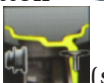
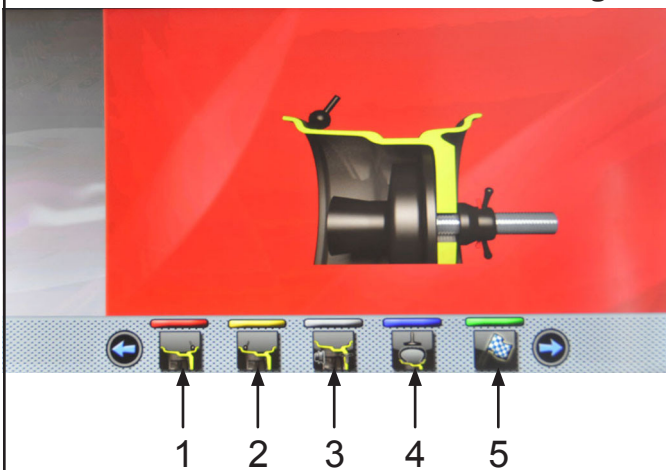

Fig. 37
Fig. 38
(Fig. 37 re. 1) and then the button (see Fig. 38 ref. 1).